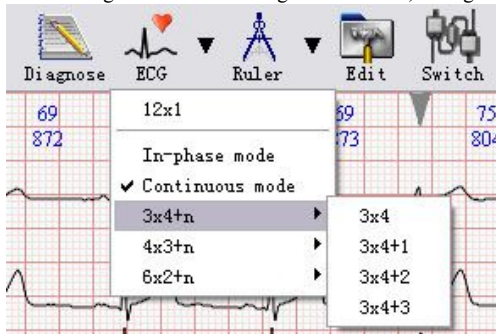

Figure 69
- **"ECG"**: select wave arrangement mode during wave review, as Figure 69: